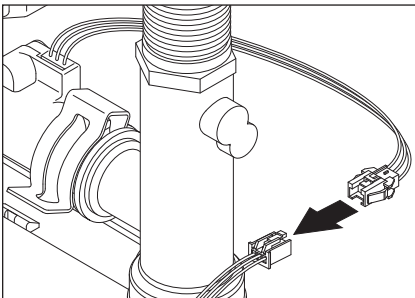

Figure 113 - Disconnecting 3 Pin Wire Harness
- 13** Disconnect the 3 pin wire harness. Connector will be located near the cold water supply opposite from Smart Valve as shown in Figure 113. Place wires aside in a safe location so they are not damaged.